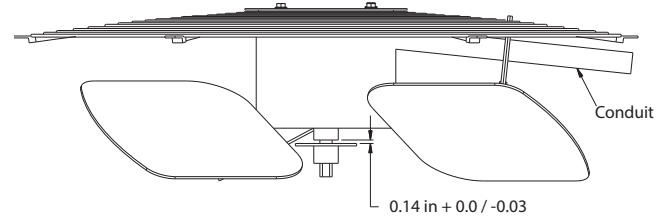

Fig. 20 — Condenser Fan Adjustment
See Fig. 20.
4. Adjust fan height as shown in Fig. 20.